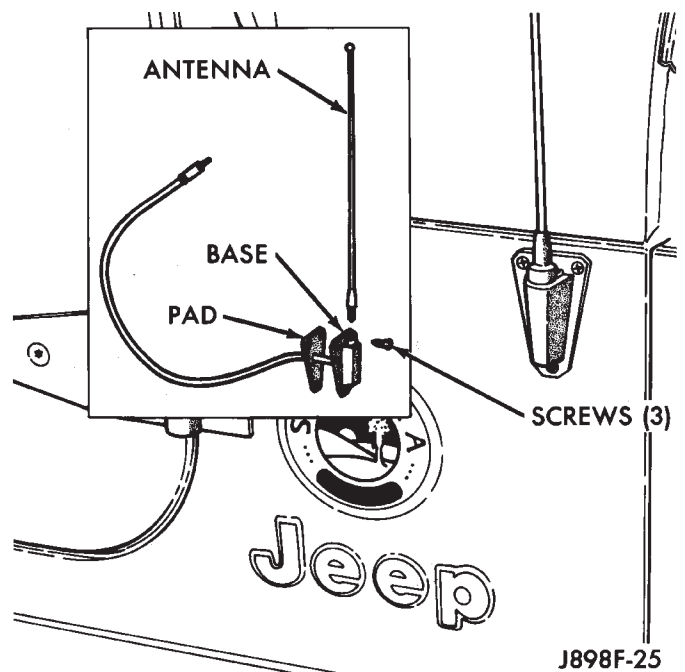

Fig. 21 Antenna Remove/Install - YJ
- (1) Remove the radio. See Radio Remove/Install, in this group for procedures.
- (2) Remove three screws holding the antenna base and pad to the body (Fig. 21).
- (3) Pull the antenna and cable out of the vehicle.